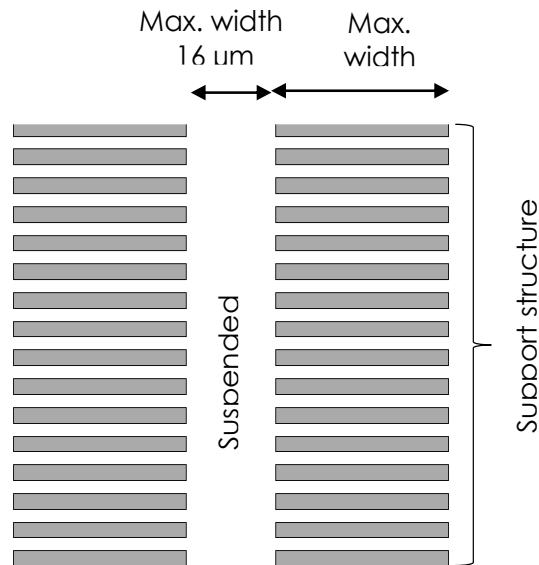

Figure 2 – Design rule for suspended and supporting/subwavelength structure maximum width
- After HF etch, the expected lateral BOX undercut is 8 µm. Therefore, the maximum width of suspended structures should be 16 µm (see Figure 2).
[§] After HF etch, the expected lateral BOX undercut is 8 µm. Therefore, the maximum width of suspended structures should be 16 µm (see Figure 2).